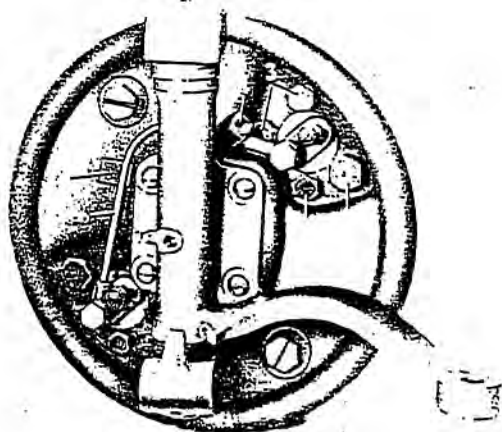

Fig. 42-5/1
2. Unscrew the hollow screws from the brake wheel cylinders and remove the brake line (4) from the brake wheel cylinders, paying attention to the rubber pad (5) between the line and the brake anchor plate (Fig. 42-5/1).
**Note:** When the brake hose has to be connected or disconnected at the brake line, the brake line should be held steady at the square socket (1) of the connector.